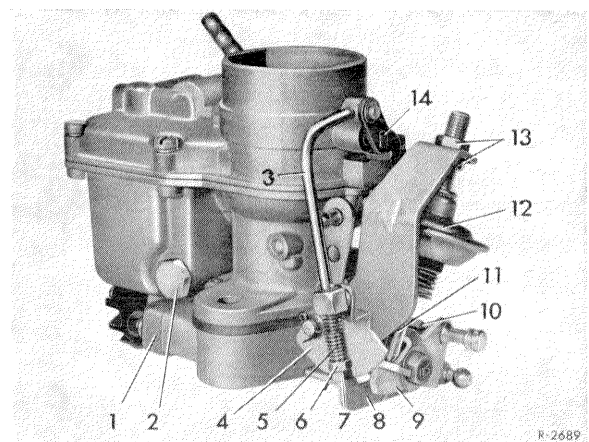

Fig. 11 Carburetor Solex 38 PDSI
The starter flap in the air intake pipe of the carburetor is mechanically operated by the starter pull knob on the instrument panel via connecting rod (3) and the starter lever (4). Simultaneously, via starter lever (4) and carrier lever (8) the throttle flap will be slightly opened so that the vacuum created in the mixing chamber when the engine is started can become effective. (Fig. 11).
The starting flap is held closed only by compression spring (5) on connecting rod (4). When the engine is started, the vacuum can open the offcenter starter flap slightly against the spring pressure. During the starting operation the starter flap will open and close in a fast sequence (Fig. 11).
Turning the nut out gives a larger, and turning it in, a smaller gap (see fig. 11).
and carrier lever (8). Clearance should be 0.1—0.2 mm. During measuring, care must be taken that throttle lever (9) is not lifted (see fig. 11).
Adjust clearance by turning adjusting screw (10). Turning the screw out gives a greater, and turning it in a smaller clearance and thus a higher engine speed (see fig. 11).
Vehicles with automatic transmission have a built-in closing damper (12) which prevents the engine from stopping with a gear engaged when the vehicle comes to a sudden stop. The closing damper is adjusted with hex nuts (13) in such a manner that the pin will complete a stroke of 5—5.5 mm up to idling speed stop (fig. 11).